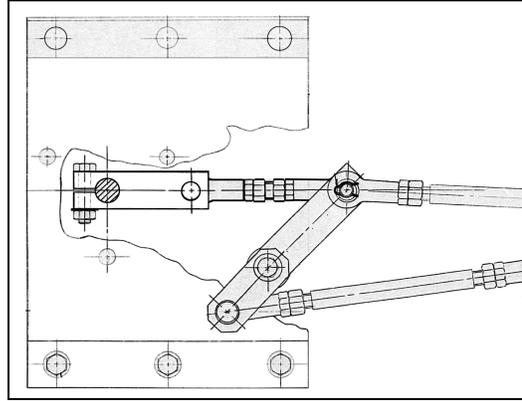

FIGURE 4 : CRANK ARM AND ROD POSITION
12. Reinstall the crank arm on the motor shaft so that the crank arm and the lever axis are aligned. The extremity of crank arm opposite to motor shaft must be at maximum distance on the right (figure 4). Tighten the screw holding the crank arm to the motor shaft.